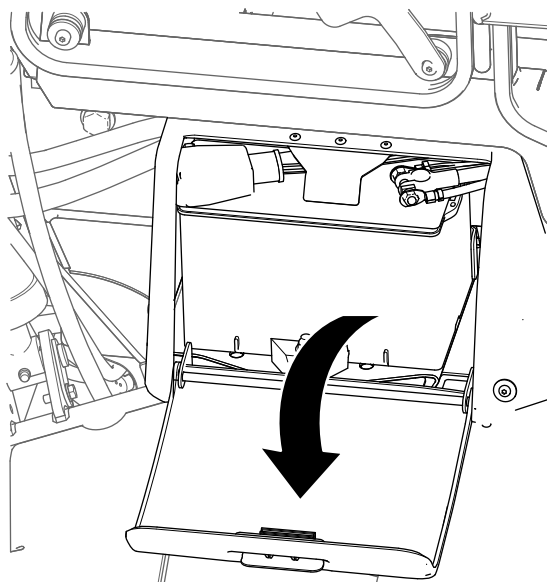

Figure 1
1. Open the battery compartment door (Figure 1).